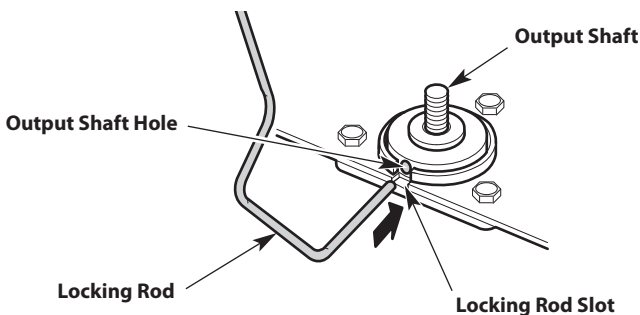

Fig. 16
1. Align the output shaft hole with the locking rod slot. Insert the locking rod through the locking rod slot and into the output shaft hole (Fig. 16).
4. Align the output shaft hole with the locking rod slot. Insert the locking rod through the locking rod slot and into the output shaft hole (Fig. 16).